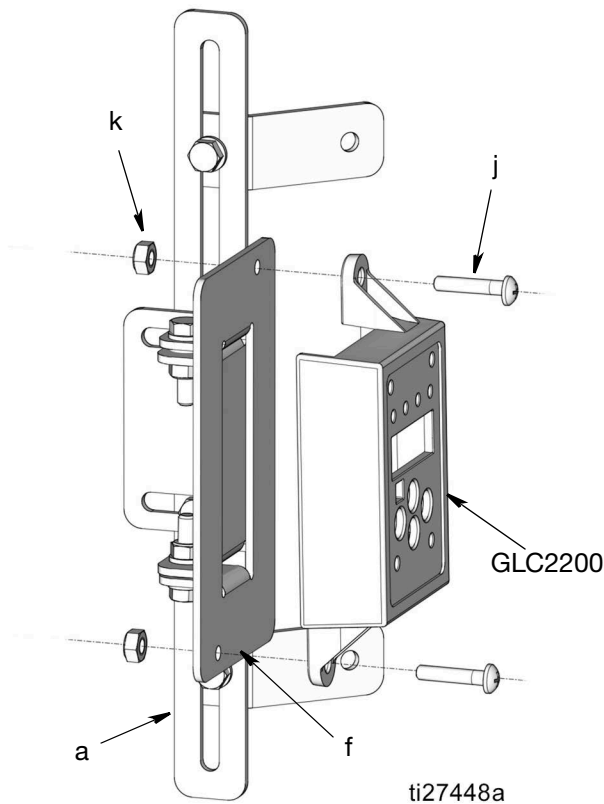

FIG. 47
- e. Install the GLC200 controller on the mounting plate (f) using screws (j), and nuts (k) as shown in FIG. 47. Tighten mounting bolts just enough to secure the controller in the bracket. Adjust the GLC2200 controller for the best viewing angle then wrench tighten bolts securely.